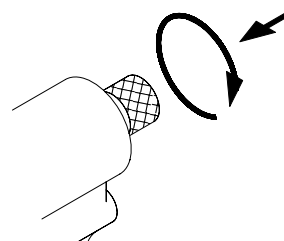

FIG. 4. Disengage Safety Stop
2. **To disengage the safety stop**, push in and turn the safety stop knob counterclockwise. See FIG. 4.